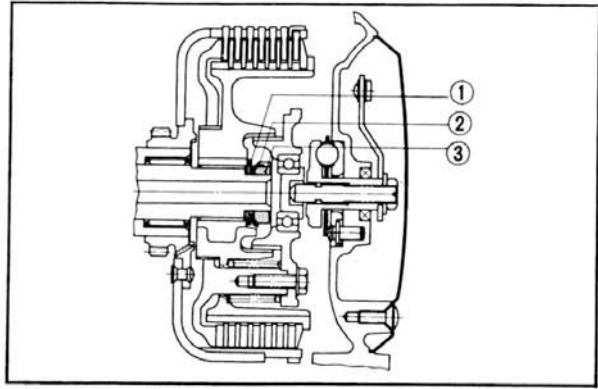

Fig. 4-10 ① Spring washer ③ Lock nut
4. Assemble the clutch center, the spring washer (tab toward the front), lock washer and lock nut in that order. And torque with a lock nut box wrench (Tool No. 07916-2830000) to **32.5~36.2 ft-lbs (4.5~5.0 kg-m)**. Refer to Fig. 4-10 for the installation of the spring washer.